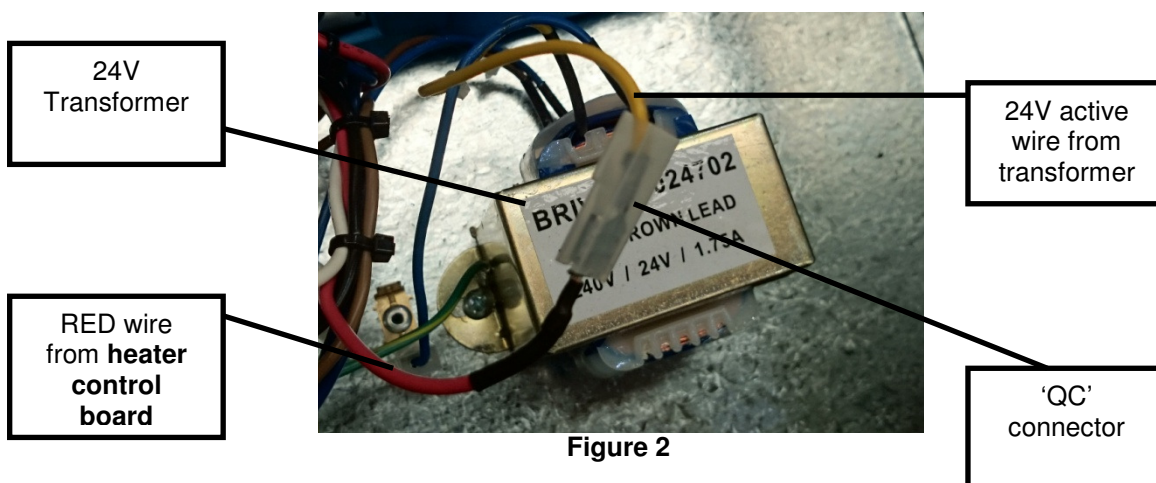

Figure 2
- 1.2 Locate and disconnect the transformer's 24V ACTIVE 'QC' connector from the RED wire going to the heater control board. See **Figure 2**